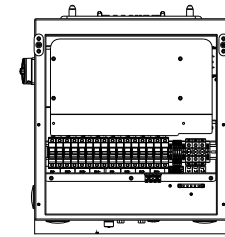

Figure 3.10 Eight (8) input channels
Figure 3.10 Shows eight (8) input channels for connecting DC strings. Each channel is protected by a fuse. The included fuses are rated at 15A. Replace fuses with like size and type. Do not exceed 20A fuse rating.